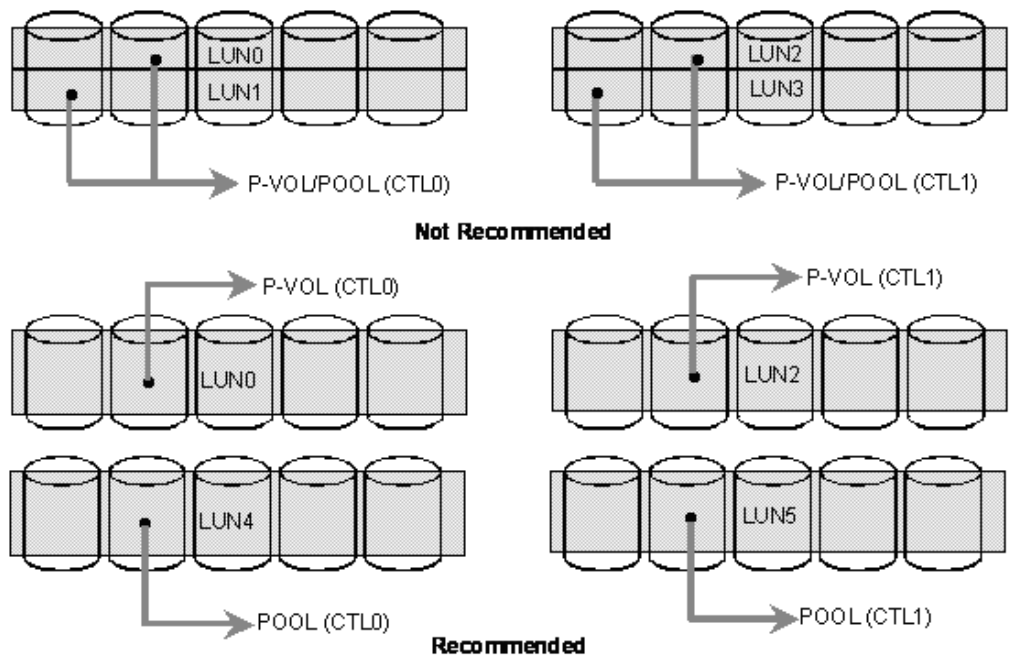

Figure 2-6: Locating P-VOL, Data Pool in Separate ECC Groups
- Locate a P-VOL and associated data pool in different ECC groups within a RAID group, as shown in Figure 2-6. When they are in the same ECC group, performance decreases and the chance of failure increase.